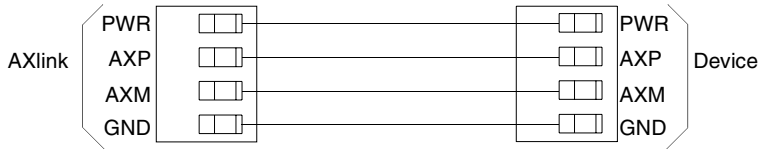

FIG. 3 AXlink wiring diagram
2. Insert each wire into the appropriate opening on the connector, as shown in FIG. 3.